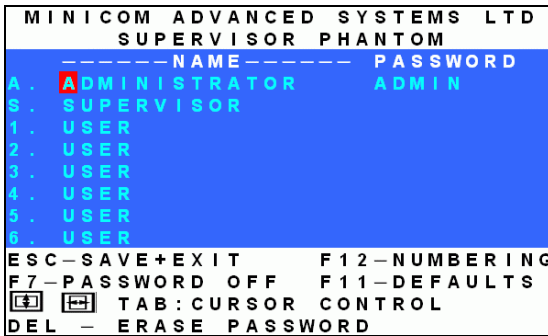

Figure 16 The Password window
3. Press **Enter**. The Password window appears. See Figure 16.